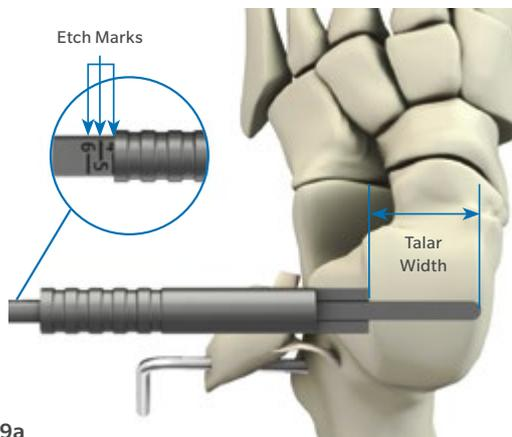

Fig. 9a
- Visually assess talar width to determine the largest allowable implant size that can be seated in the joint without any M/L overhang (Fig. 9a, 9b).